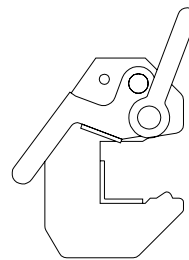

Fig. 39.3
1. Open the safety lever as far as possible (Fig. 39.3).